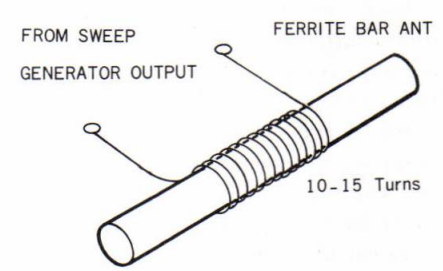

Fig. 3-9 455 kHz radiating antenna
- Radiating antenna. See Fig. 3-9.